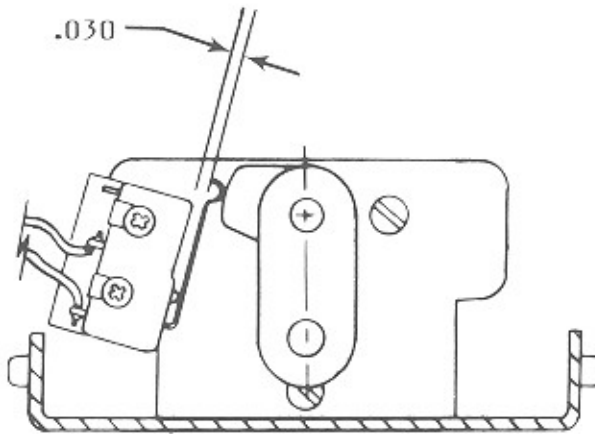

Figure 4-5. Stacker Home Switch Adjustment
Check for a 1/32-inch gap between the stacker switch arm and the stacker switch body as shown in figure 4-5.
1. Loosen the two adjusting screws as shown in figure 4-5.